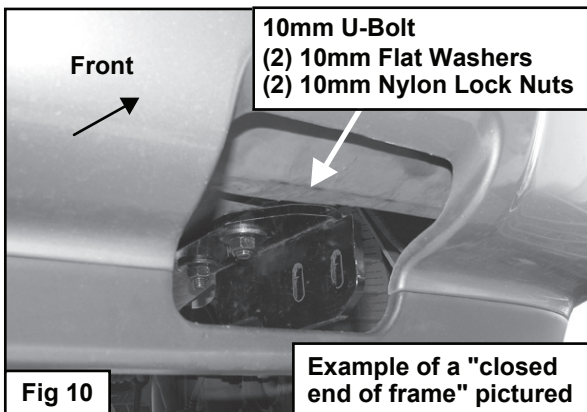

Fig 10
b. Attach the driver side Frame Bracket to the U-Bolt with (2) 10mm Flat Washers and (2) 10mm Nylon Lock Nuts, (Fig 10).